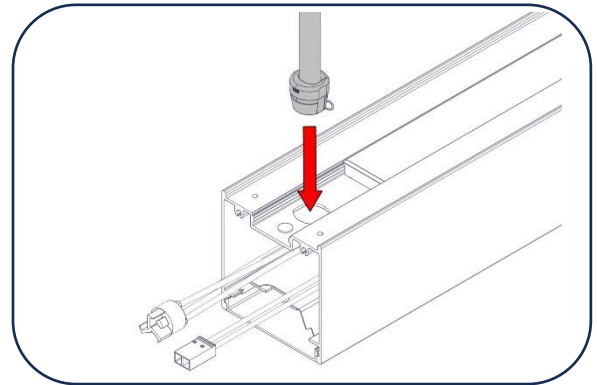

Figure 3
3. Remove the **Cable Plug** and insert the **Power Cable**, feeding the quick disconnects through the hole. [Figure 3]